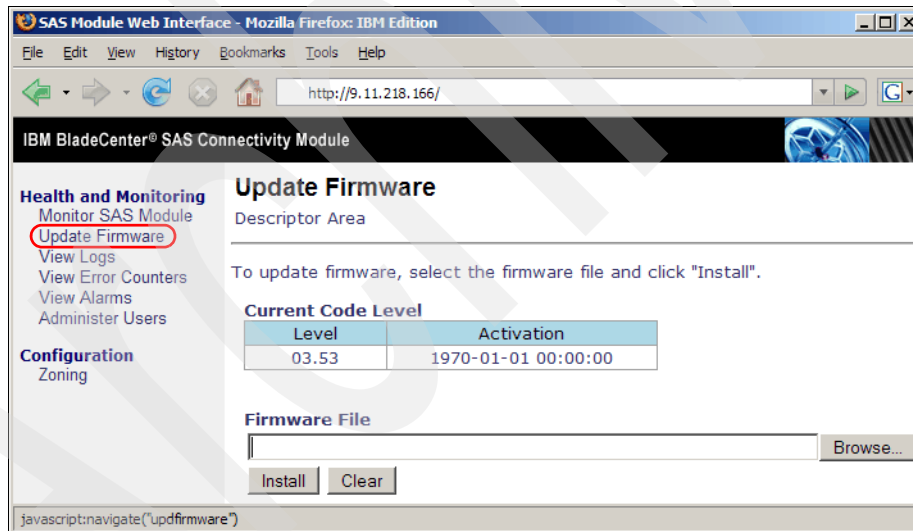

Figure 20-4 SAS Connectivity Module - Update Firmware
2. In the Monitor Module window, click **Update Firmware**. The Update Firmware window opens, as shown in Figure 20-4. The current firmware level is also displayed.